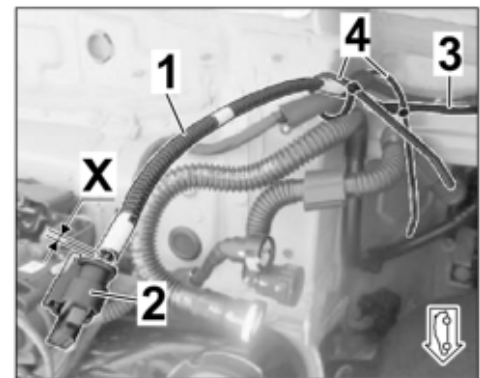

Figure 24
- 3.4.5 Install corrugated hose 4.5 x 7.6 x X to each branch from a distance of approx. 30 mm from the connector (socket housing 4-pin) to the underbody. ⇒ *Figure 24*